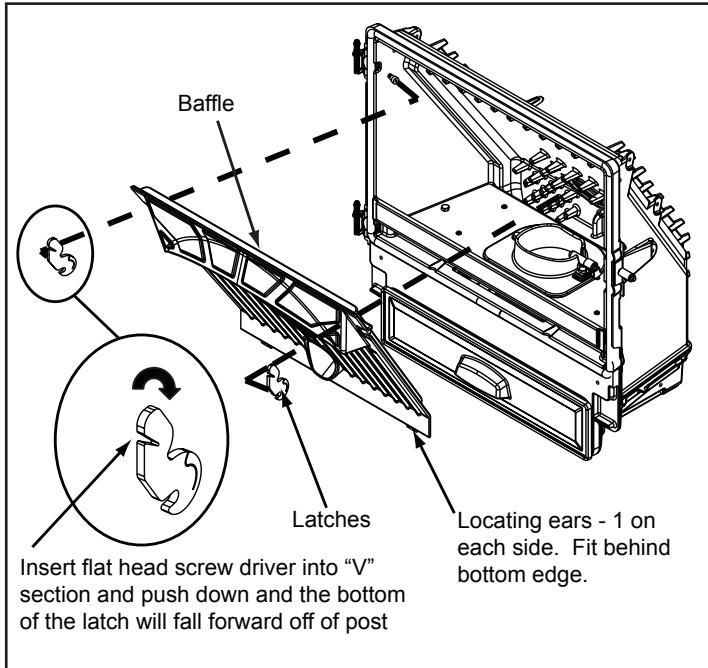

Figure 28.2
- d. Remove baffle by placing a flat head screw driver into the slot of the latches located in the upper corners and push down. The bottom of the latch will fall forward off of the post. Lift the baffle up and then out toward you. **Figure 28.2.**